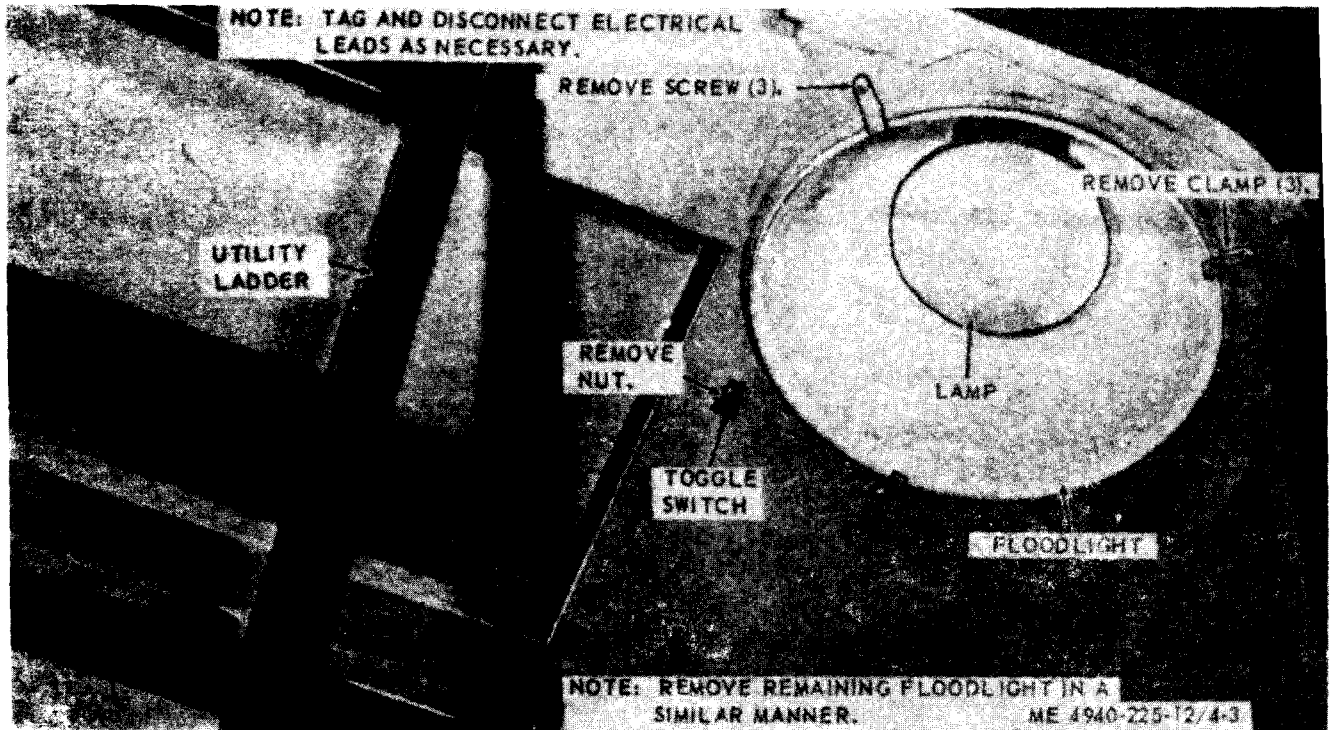

Figure 4-3. Floodlights, removal and installation.
a. *Removal.* Remove the floodlight as illustrated in figure 4-3.
(1) Clean all parts with a cloth dampened in cleaning solvent and dry thoroughly.
(2) Inspect all parts for cracks, corrosion, and other defects and replace a defective floodlight.
c. *Installation.* Install the floodlights as illustrated in figure 4-3.